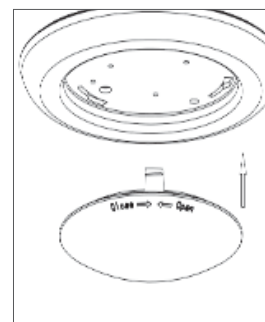

FIGURE 6
G) Reinstall lens and turn clockwise to lock the lens on fixture. (Figure 6)